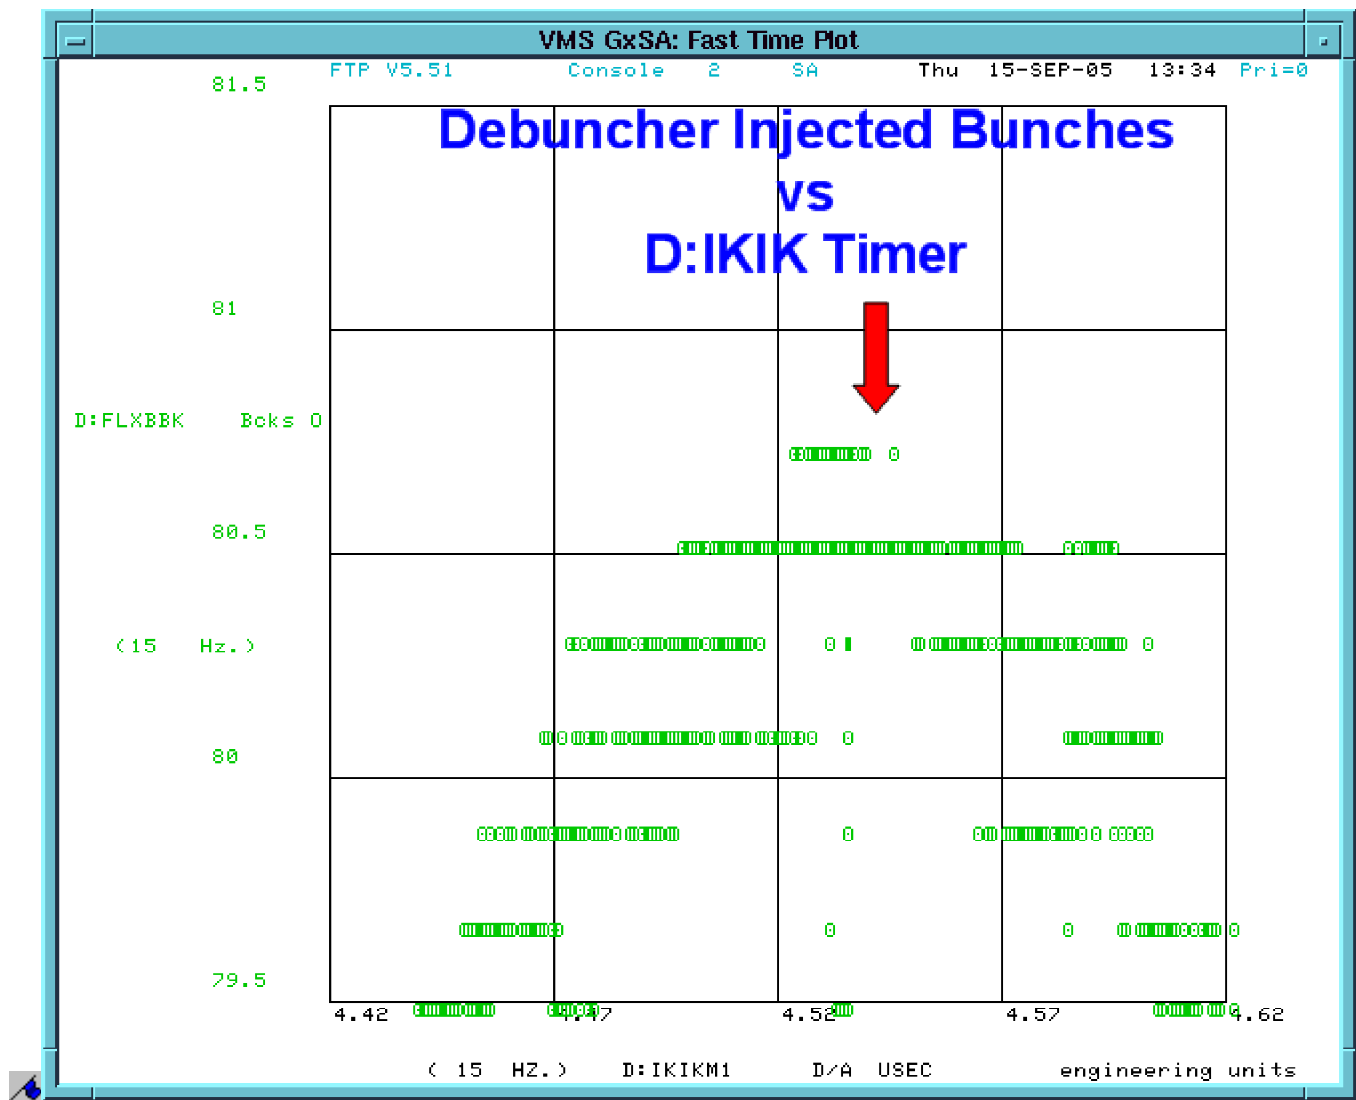

Figure 22:
13. Pbar FTP 104 (see Figure 22) shows how the equivalent number of bunches injected into the Debuncher (D:FLXBBK) is impacted by Debuncher Injection Kicker timing.